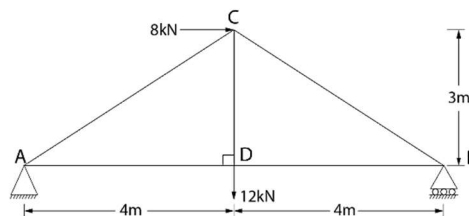

FIG. NO. 2
- OR iii. Find the forces in the members of the truss shown in the Fig. No. 2. **8**